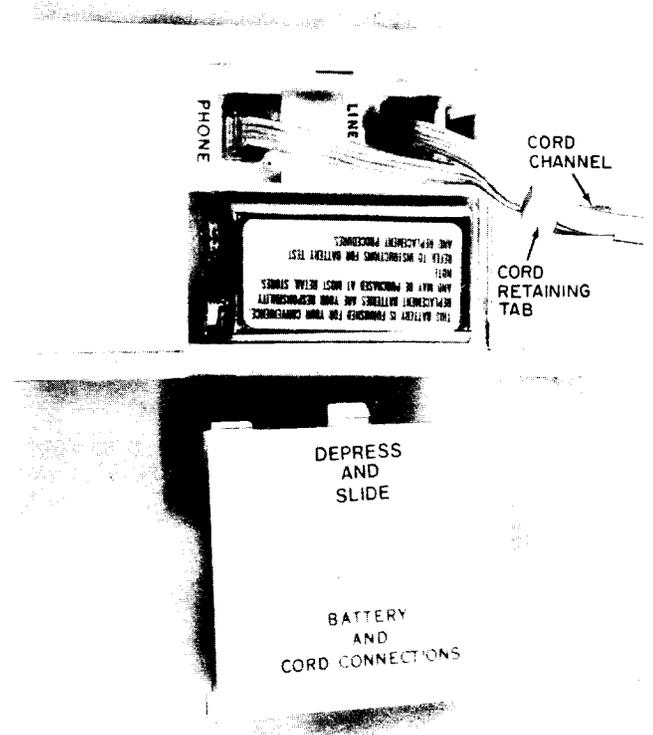

Fig. 3—Location of Battery and Cords
3.03 These dialers are shipped with a 9-volt alkaline battery which is to be connected at the time of installation. Remove the battery cover located on bottom side of dial and make the necessary connection (Fig. 3). The battery should last a year under normal telephone usage.
3.05 Dress the two (2) cords flatwise in the cord channel under the cord retaining tab and replace the battery cover (Fig. 3).